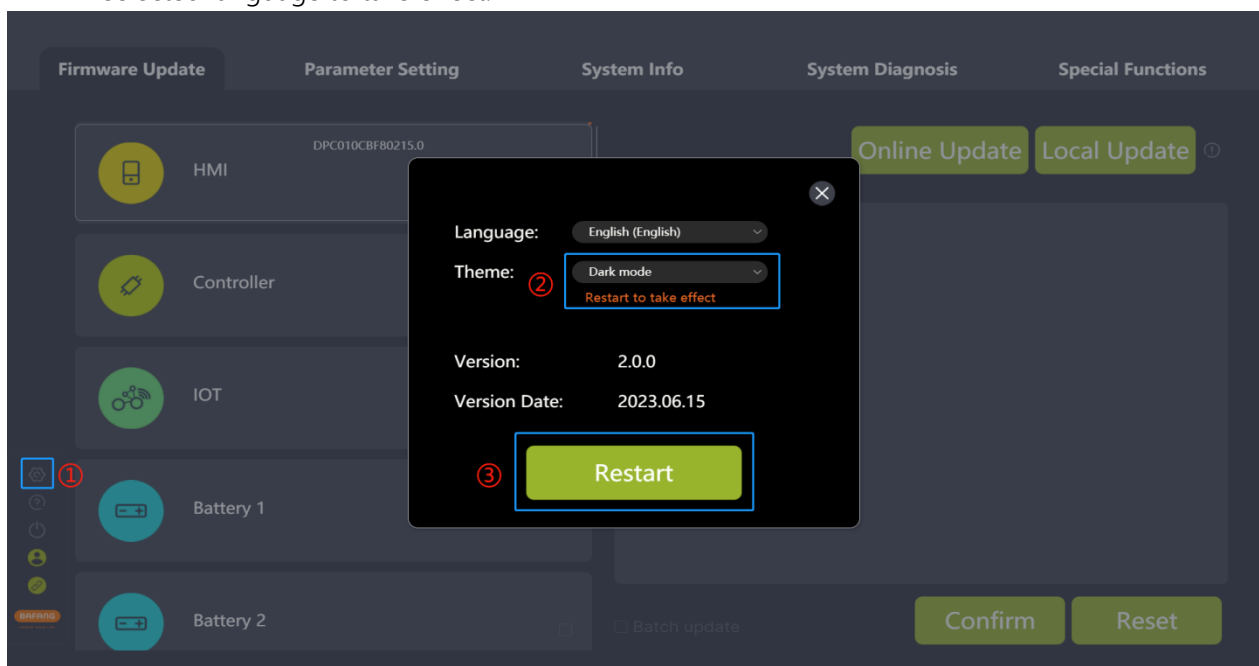

Fig. 9-4 Theme
- (1) Select the "Settings" icon.
- (2) Select the desired theme in the drop-down list (Fig.9-4).
- (3) Click the "Confirm" icon.
- (4) Click the "Restart" icon. Restart the software and the selected theme will take effect.